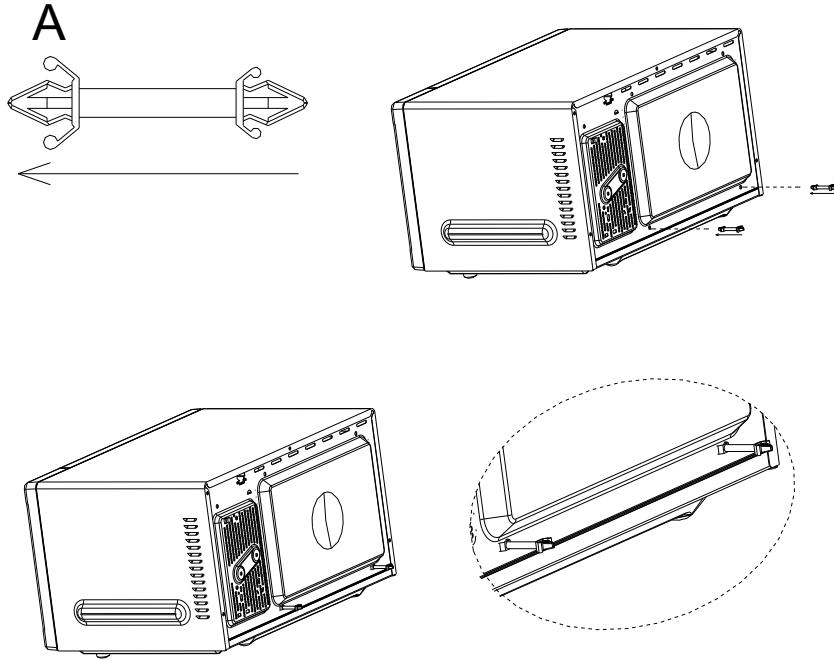

FIG 1
1. For your use safety, before installing this model of microwave oven, please take out the locating spacer rods from the cavity (as illustrated in Figure 1 of the verso), and insert them respectively into the two locating holes at lower part of the cavity rear panel as illustrated, so as to ensure good ventilation between the microwave oven and back wall.(EA-1770EG)